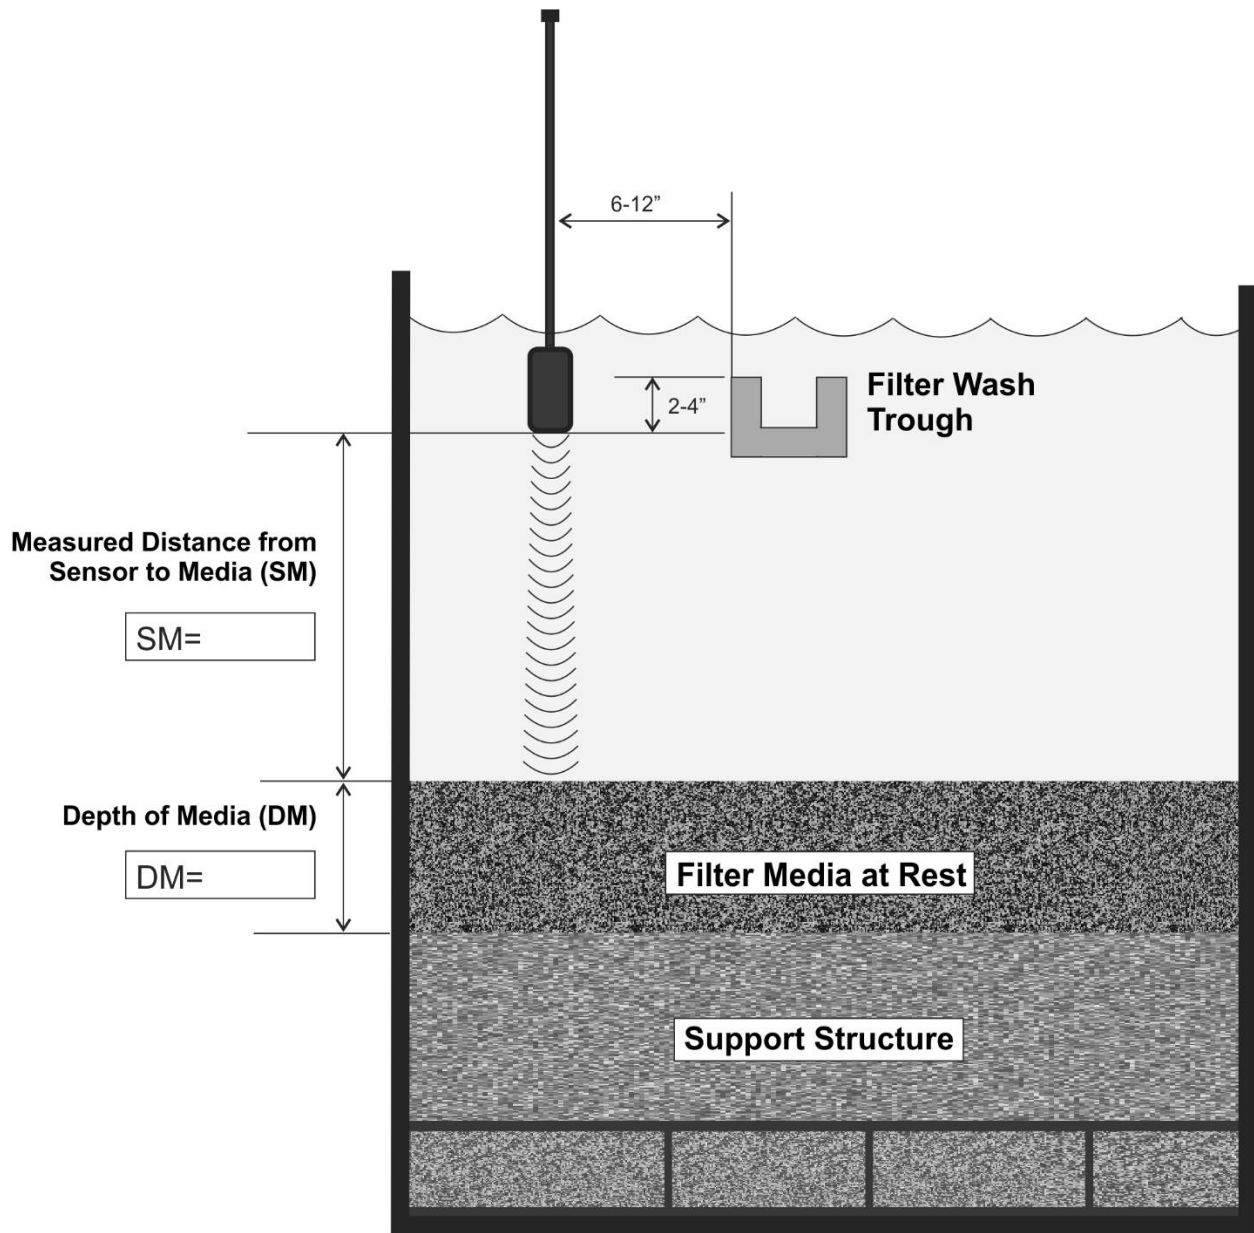

Figure 41: Installation Recommendations and Field Measurement for Filter Applications
Two dimensions are needed to set up the EchoSmart unit for filter applications: the distance from the Sensor to the Media (SM), and the Depth of the expandable Media (DM). Installation recommendations and a guide to help determine correct input dimensions are found in Figure 41 below. SM should be measured after installation of the sensor. The setup parameters can then be implemented as follows:
(This locates the zero Level at the bottom of the expandable media. See Figure 41)
- 20mA Set Point:** Tank Depth (SM + DM, Figure 41)